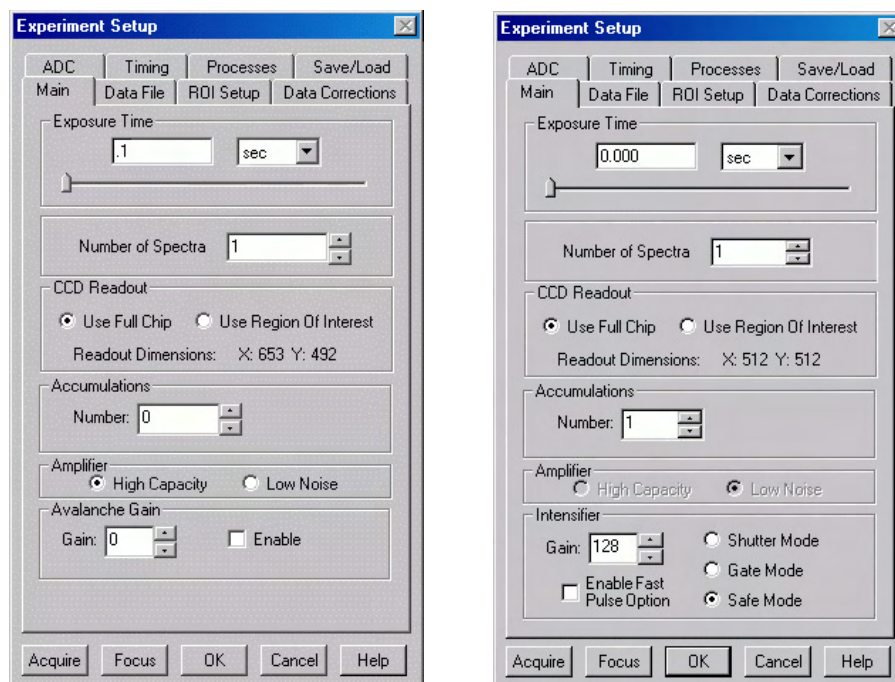

Figure 37. Experiment Setup dialog box Main tab page (left, all but PI-MAX; right, PI-MAX)
1. Open the Experiment Setup dialog box (Figure 37) from the Acquisition menu or by clicking on the  button on the **Custom Toolbar**.